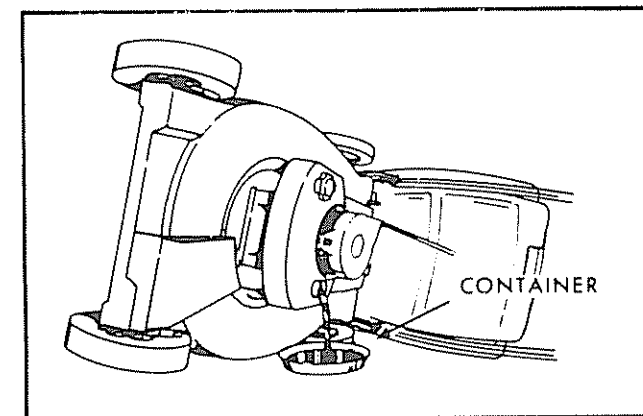

FIG 27
2. Tip mower on its side as shown in Fig. 27 and drain oil into suitable container. Rock mower back and forth to remove any oil trapped inside of engine.